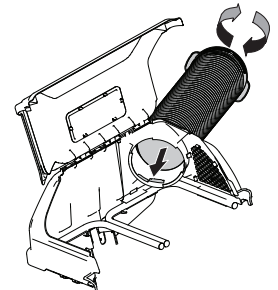

Figure 19
1. Thread the upper end of the hose securely into the upper chute support. There are two tabs on the lower inside part of the upper chute support to allow for secure threading. See Figure 19.